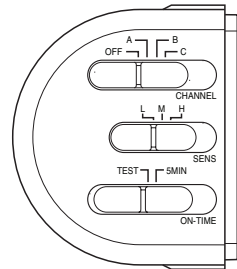

Figure 7
2. Slide the CHANNEL switch to OFF, the sensitivity (SENS) switch to the “L” position, and the ON-TIME switch to the TEST position (see Figure 7). *Note:* The TEST mode overrides the photocell (daylight shutoff feature) and allows the light fixture to be tested day or night.
1. Slide the CHANNEL switch to the desired channel (A, B, or C) on all lights to be linked together (see Figure 7).